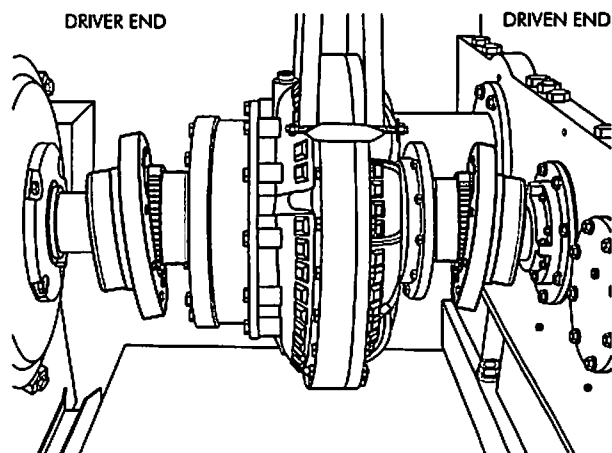

Figure 5
- Position fluid coupling assembly between Type G hubs as close to the centerline as possible, Figure 5.